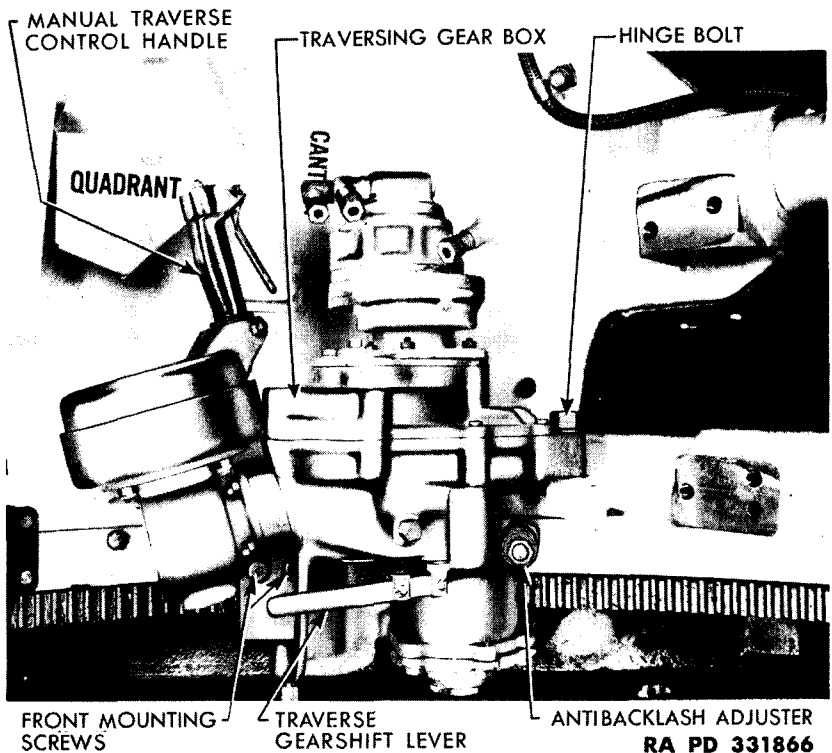

Figure 62. Traversing gear box mounting screws (M24).
g. REMOVE TRAVERSING GEAR BOX. Remove two screws with $\frac{3}{4}$ -inch heads holding gear box mounting bracket hinge (fig. 62) to side of
will prevent the rubber seal from sticking to the bottom of the turret and prevent damage to the seal when the turret is rotated. Install four $\frac{1}{2}$ -20 NF studs in the front top holes of the ring gear (fig. 62). Attach a sling to lifting eyes on turret and lower turret over ring gear, making sure the 4 studs enter the 4 holes at the front of the turret. Install 4 nuts and washers holding turret to ring gear. Install 16 cap screws ($\frac{1}{2}$ -20 NF x $1\frac{1}{4}$) with internal toothed lock washers holding turret to ring gear.